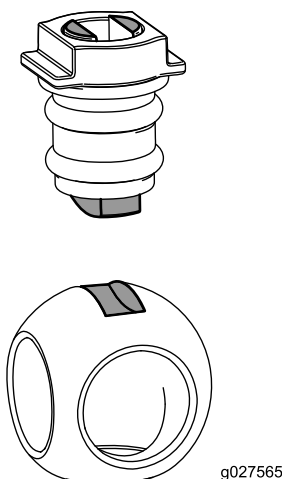

Figure 125
6. Insert the ball into the valve body (Figure 125).
**Note:** The valve stem should fit inside the ball drive slot. If the valve stem does not fit, adjust the position of the ball (Figure 125).